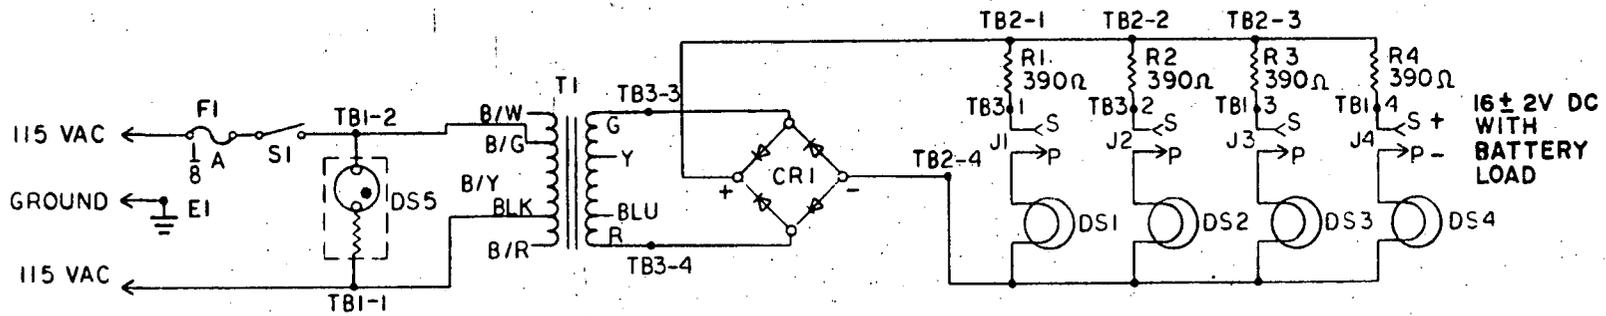

Figure 3-2. Battery Charger Schematic Diagram
3.2.5 BATTERY CHARGER. (Figure 3-2) The battery charger is capable of charging four battery packs simultaneously. The charger is powered from a standard 115V ac outlet. Power enters the charger through a fuse, F1, and toggle switch, S1, to transformer T1. A power on indication is provided by neon indicator light DS5. Transformer T1 steps the power line voltage down to 34V. This is converted to direct current by the full wave rectifier CR1. This dc power is fed to resistors R1, R2, R3, and R4, which serve as voltage dropping resistors, to connectors J1, J2, J3, and J4. Indicator lights DS1, DS2, DS3, and DS4 show when batteries are charging. The indicator lights are connected in series with each charging circuit, and hence illuminate only when a battery pack is plugged into the associated output connector. The open circuit voltage at the connector is 34+2V dc. Under load, the output voltage is 16+2V dc with a current of 45+10 mA.